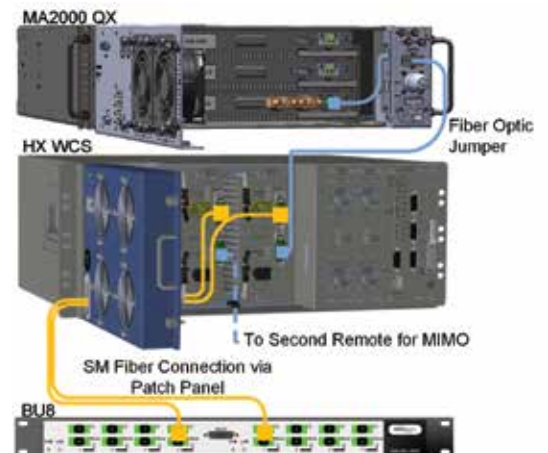

Figure 16. Example of HX WCS Fiber Optic Connections to BU and MA2000 Remote (MIMO)
- Step 4:** Open cabinet door to access HX WCS module(s) with the fiber optic interface, route the DL and UL fibers through the front door slot (see Figure 16), and connect as follows:
- Optical fiber connections to/from headend (BU):